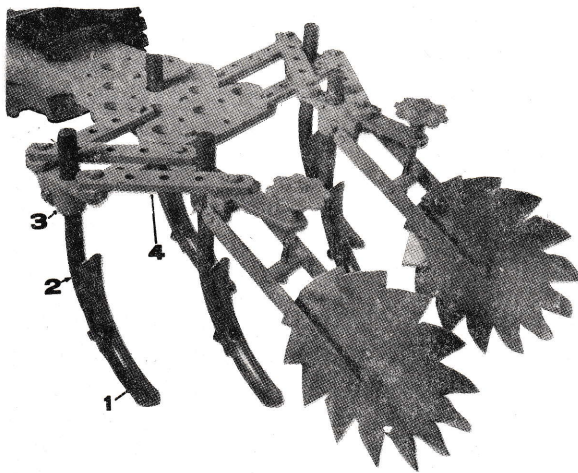

Figure 1
The Cultivator Toolholder, can be used to hold a variety of cultivating tools. The most common set-up of cultivating tools in the Toolholder is shown in Figure 1.
**Attaching Tools to Toolholder:** The individual cultivating tool (1 in Figure 1) is attached to a Shank, (2 in Figure 1), which in turn is attached to the Toolholder (3 in Figure 1).
**Parallel Bars:** The Parallel Bars, (4 in Figure 1) can be adjusted in several ways, depending on the task. Usually it is necessary to detach the Bars from the Depth Wheels to make these different set-ups.
**Five-Steel Set-Up** is the standard arrangement; 1-1/4 inch wide steels are used. (Figure 1).